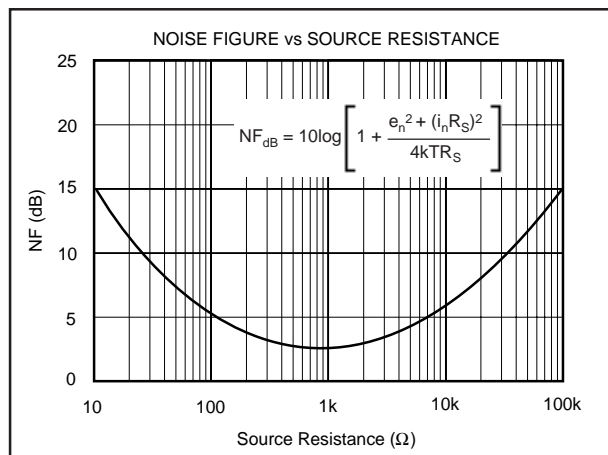

FIGURE 10. Noise Figure vs Source Resistance.
The OPA621's voltage and current noise spectral densities are specified in the Typical Performance Curves. For RF applications, however, Noise Figure (NF) is often the preferred noise specification since it allows system noise performance to be more easily calculated. The OPA621's Noise Figure vs Source Resistance is shown in Figure 10.